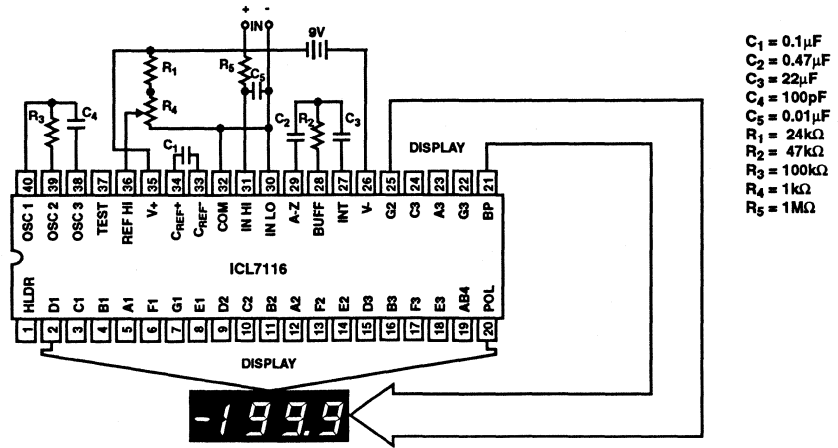
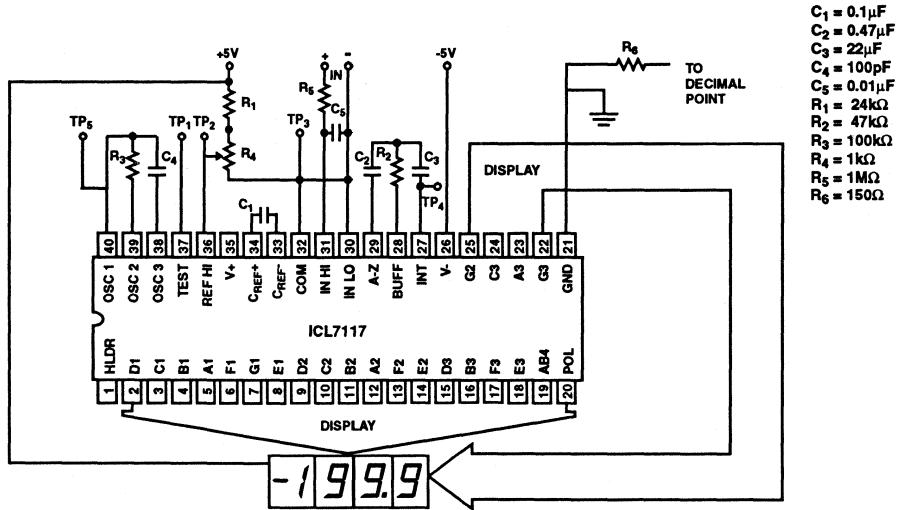

FIGURE 1. ICL7116 TEST CIRCUIT AND TYPICAL APPLICATION WITH LCD DISPLAY COMPONENTS SELECTED FOR 200mV FULL-SCALE
FIGURE 2. ICL7117 TEST CIRCUIT AND TYPICAL APPLICATION WITH LED DISPLAY COMPONENTS SELECTED FOR 200mV FULL-SCALE
- Unless otherwise noted, specifications apply to both the ICL7116 and ICL7117. ICL7116 is tested in the circuit of Figure 1. ICL7117 is tested in the circuit of Figure 2.